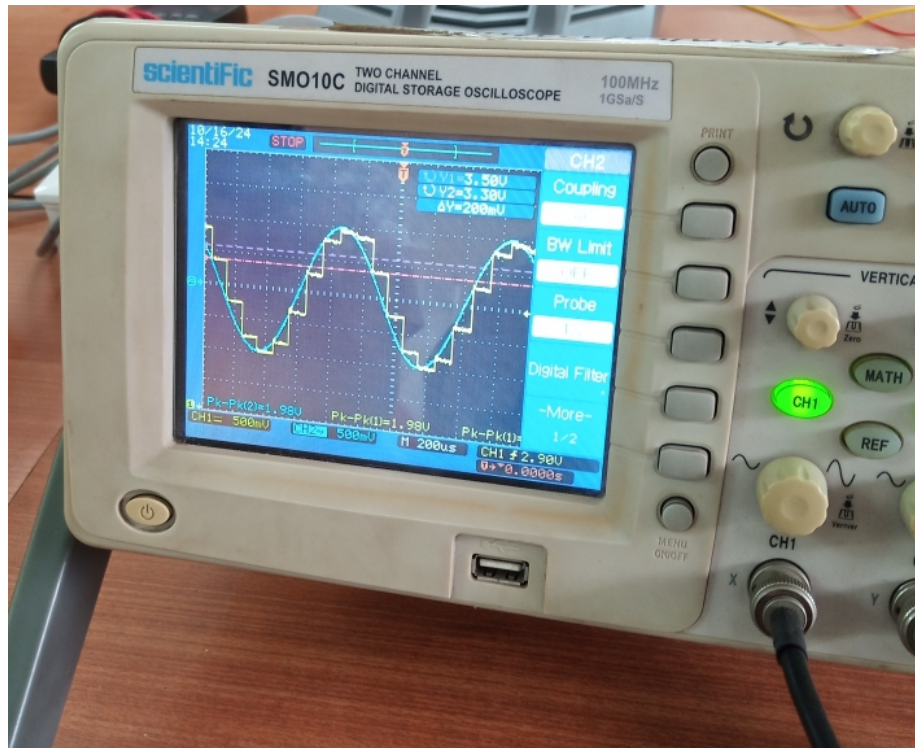

Figure 3: Sample and hold with duty cycle=10%
1. As we increased the duty cycle in task 1, we saw the sample and hold converging on to the signal $m(t)$ see Figures 3, 4 and 5. this is expected since a longer duty cycle essentially means that the signal has time to evolve within the aperture time and in the limiting case of $D = 100\%$, the circuit just becomes an all pass filter and the output is just the signal $m(t)$